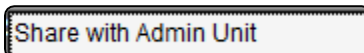

Figure 4-4. Work Order Share Command
1. Point to the Work Order, and perform the **Share with Admin Unit** function (Figure 4-4).